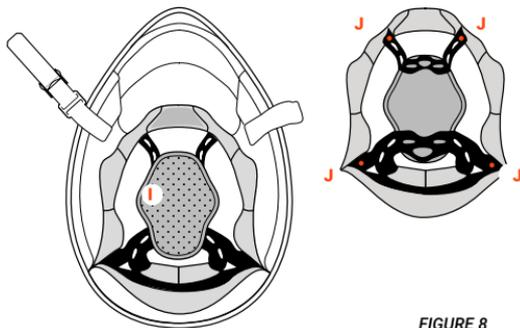

FIGURE 8
**Doublure interne centrale: CALOTTE – I – Figure 8**